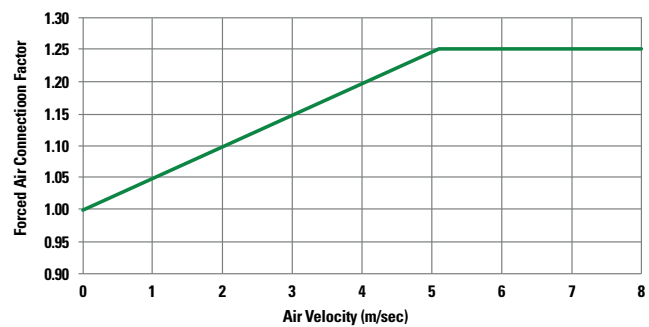

FIGURE 5. Forced cooling correction factor.
$F_{FC}$  = Forced cooling correction factor (see **Figure 5**)
**Figure 5** shows how to determine the thermal correction factor. Our high-speed fuse technical paper shows an example for determining the thermal correction factor. For any questions, contact the Littelfuse Techline at +1 (800) 832-3873.